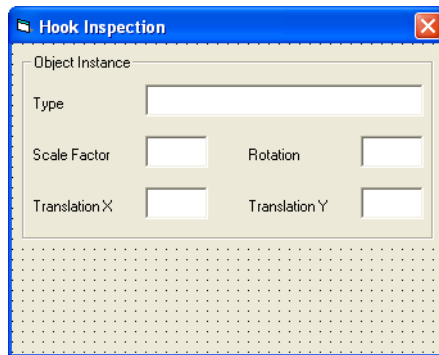

Figure 46 Visual C++ Dialog with Object Pose Information
3. On the dialog template, remove all existing dialog items and add a Group Box. Add 5 edit boxes respectively named **IDC_EDIT_TYPE**, **IDC_EDIT_SCALE**, **IDC_EDIT_ROTATION**, **IDC_EDIT_TRANSLATION_X** and **IDC_EDIT_TRANSLATION_Y**. Also set the Group Box caption, the edit box dimensions and add labels. The text for the edit boxes should be empty. Your dialog template should look like the dialog in Figure 46.